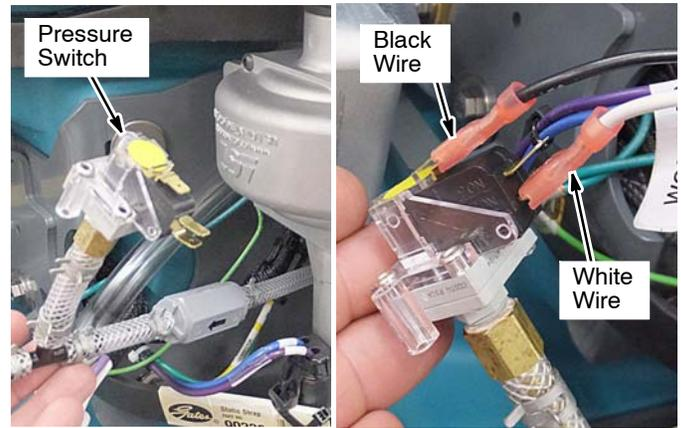

Fig. 44
- Connect the black and white wires from ec-H2O harness to pressure switch as shown (Figure 44).